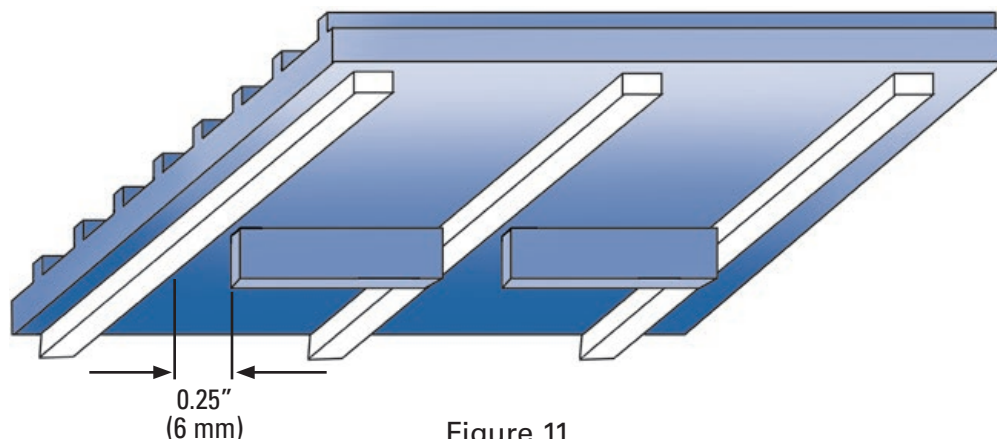

Figure 11
- Conveyors with center returnway supports require split cleats, see Figures 11 and 12.
- Recommend that continuous support rails contact the belt conveying surface and not the top of the cleats and be made of UHMW-PE or acetal (POM). See Figure 11